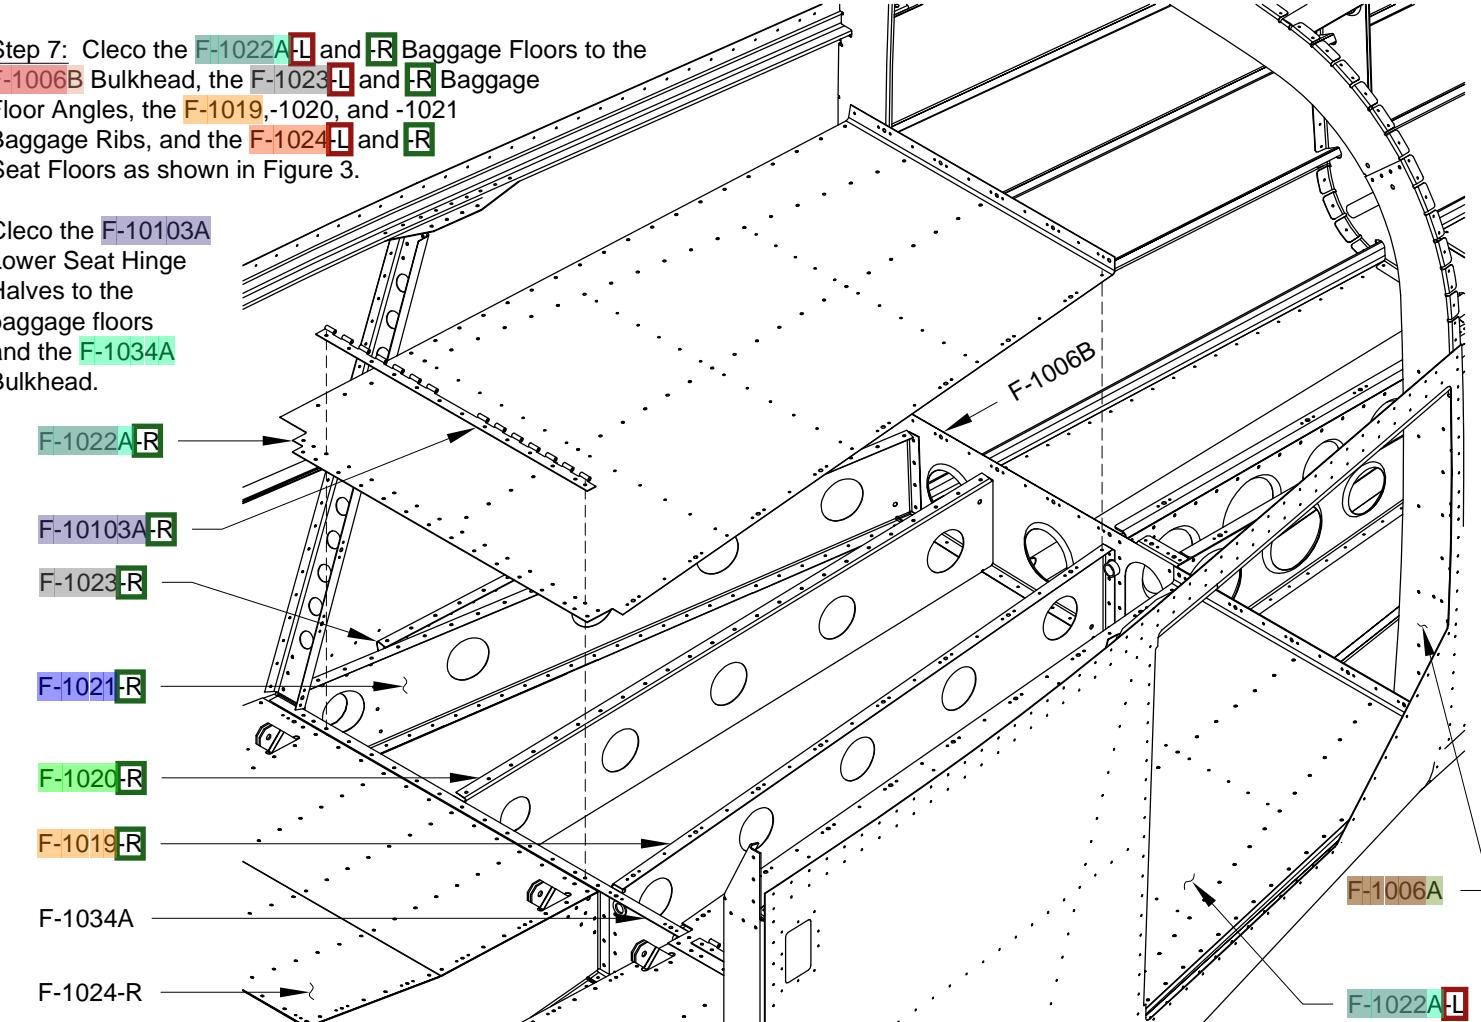

FIGURE 3: CLECOING THE BAGGAGE FLOORS
Step 7: Cleco the F-1022A-L and -R Baggage Floors to the F-1006B Bulkhead, the F-1023-L and -R Baggage Floor Angles, the F-1019-, 1020, and -1021 Baggage Ribs, and the F-1024-L and -R Seat Floors as shown in Figure 3.